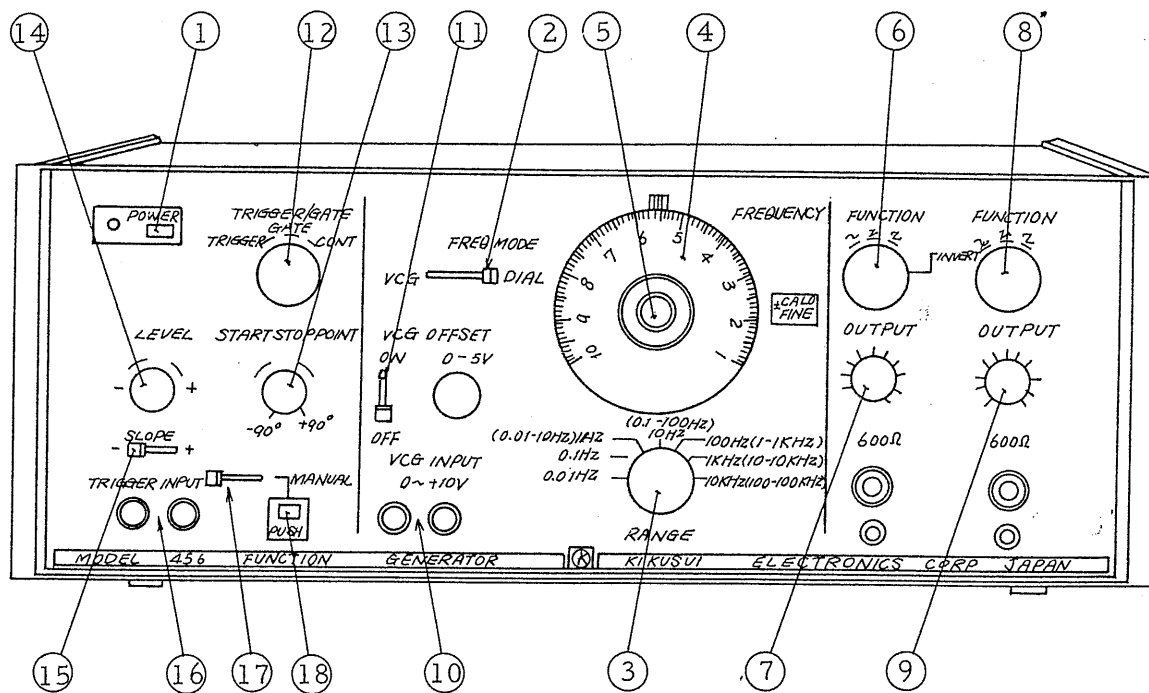

Fig. 3-1 Front panel
3.1 Front panel and Rear panel descriptions (See Fig.3-1, 3-2)